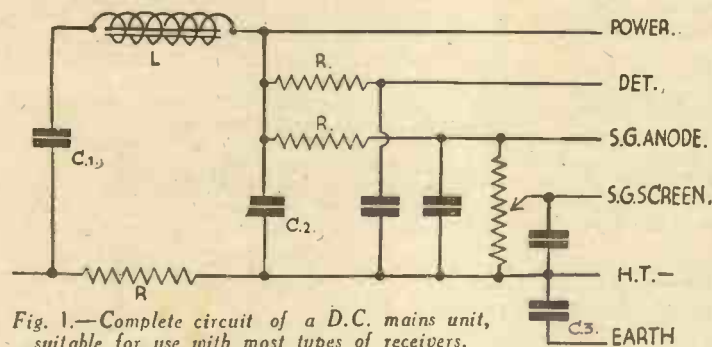

Fig. 1.—Complete circuit of a D.C. mains unit, suitable for use with most types of receivers.
and therefore the design of a unit for direct-current mains is the simplest proposition, and we will tackle that first. Fig. 1 shows the complete circuit of a D.C. mains-unit for deriving high-tension current from the mains and providing four separate tappings, including a variable one for the S.G. valve. One might think that as direct current is required for the valves, and current supplied through a D.C. main is already "direct," it would merely be necessary to break down the input to the voltage required by the valves. Unfortunately, this certainly is not so! The mains current is never *pure* direct current, and in some localities, particularly where the supply is derived from mercury-arc rectified A.C. there is a very considerable percentage of residual alternating current superimposed on the D.C., which if allowed to reach the anodes of the valves would make its presence felt in the shape of a devastating mains hum! In order to remove this A.C. component we use a combination of chokes (L) and condensers (C) which filters the alternating current from the direct current, and thus converts the irregular mains current to a *smooth* direct current suitable for the valves. The choke consists of a large number of turns of fine wire wound on a bobbin, and surrounded by iron laminations (called the core). To explain fully the action of the choke is somewhat beyond the scope of this article, but, in short, it may be said that this component acts on the principle that when an alternating potential difference is applied to a circuit possessing "self-inductance" (as any winding does), the variation of the resultant magnetic flux sets up an alternating electromotive force which tends to choke back the current, at the same time causing the current to lag in phase behind the applied
The two condensers (marked C1 and C2 in Fig. 1) are shunted in parallel with the mains, one before the choke and one after, and these must have a capacity of not less than 4 mfd. each and, of course, must be capable of withstanding the full mains input. These condensers act more or less as reservoirs, and are, in fact, termed "reservoir condensers," accepting the irregular flow of current and feeding it out in the form of smooth current. The condensers also act in some measure as "bypass" condensers, putting up an effective barrier to the passage of direct current, but providing a low impedance path to earth for the alternating currents. Quite a good analogy to the "reservoir condenser" is afforded by an ordinary low-tension accumulator which is being trickle-charged at the same time as it is feeding the filament circuit of the set. Under these conditions, the accumulator accepts the unsmoothed and irregular D.C. supply from the trickle, but feeds it out in the form of a perfectly
dropping resistance and by-pass condenser on each tapping, as is clearly shown in Fig. 1. The decoupling effect is obtained in this manner. The resistances not only regulate the voltages, but they also offer a high impedance to H.F. currents, which are conveniently disposed of by providing for them a low-impedance path to earth through the by-pass condensers connected between the low-potential end of the resistances and the negative side of the unit. The formula already given for computing the value of the mains resistance is also used for calculating the values of the various voltage-dropping resistances. It will be observed that the feed for the screen of the S.G. valve is obtained from the slider of a potentiometer (which is also by-passed). The current required by the screen is very small (less than 1 milliamp) and, with an ordinary variable resistance in this position, the voltage would tend to fluctuate considerably, and as some S.G. valves are very fussy—even to within a few volts—of the voltage applied to the screen, we cannot ensure optimum working conditions with a fixed resistance. The potentiometer arrangement overcomes both difficulties, providing a steady but easily adjustable voltage output. Perhaps it should be mentioned that all by-pass condensers should have a capacity of not less than 2 mfd. The condenser marked C3 in Fig. 1 is absolutely essential. A moment's thought will make it clear that the negative line of the unit, and of course the receiver, is connected directly to the negative side of the supply main, and consequently, if a direct earth were connected to the set or to the unit, one would—in effect—be connecting the negative main to earth. A very high current would immediately flow through the mains-resistance in the unit, causing this component to overheat and give up the ghost—this is the least damage one could expect! In order to overcome this difficulty the installation is earthed through the condenser, thus isolating the mains from earth, but at the same time retaining a path to earth for the speech currents. This isolating condenser is usually included in the unit by the manufacturers, and that is the reason that